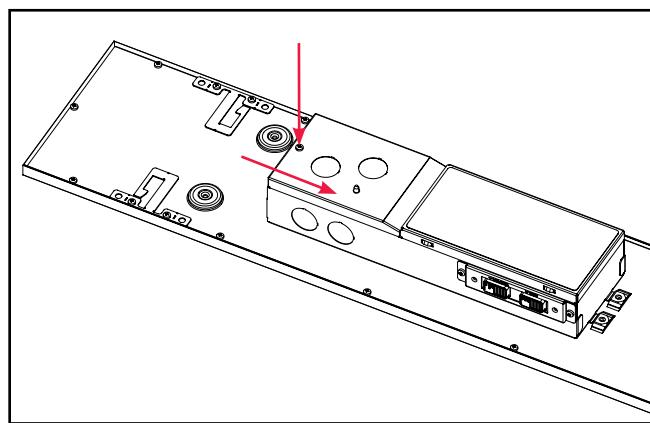

Figure 6.
- Tuck all wires and wire nuts into the fixture junction box, replace electrical access plate, and fasten screw (Figure 6).